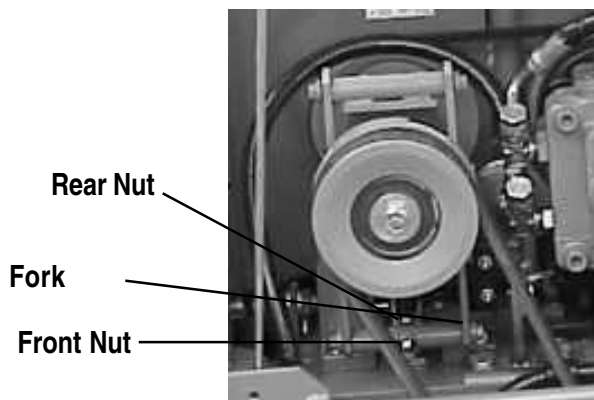

**Figure 24. Engine Air Filter and Element**
2. To clean or replace air filter loosen the wing nut on the air filter housing (Figure 24) remove the cover and take out air filter cartridge. If only cleaning of the air filter is desired blow through the air filter cartridge from the inside, moving a jet of dry compressed air up and down until all dust is removed.